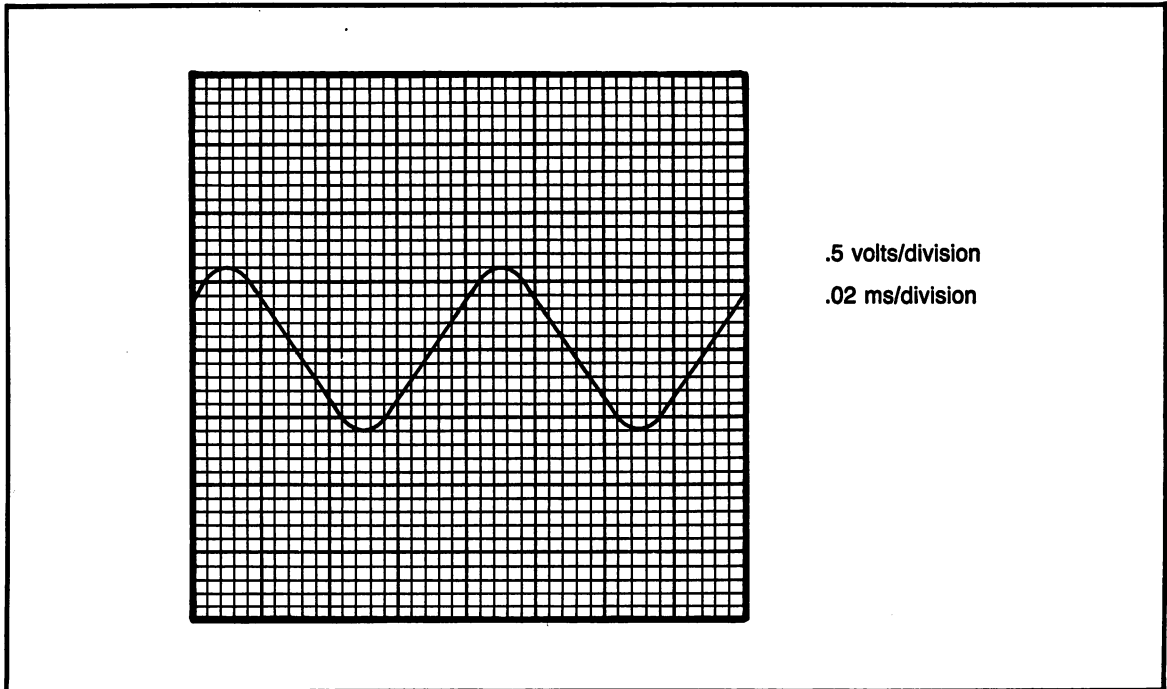

Fig. 11-22. Problem 38: .5 volts/division; .02 ms/division.
- (38) Figure 11-22; a) p-to-p voltage b) frequency